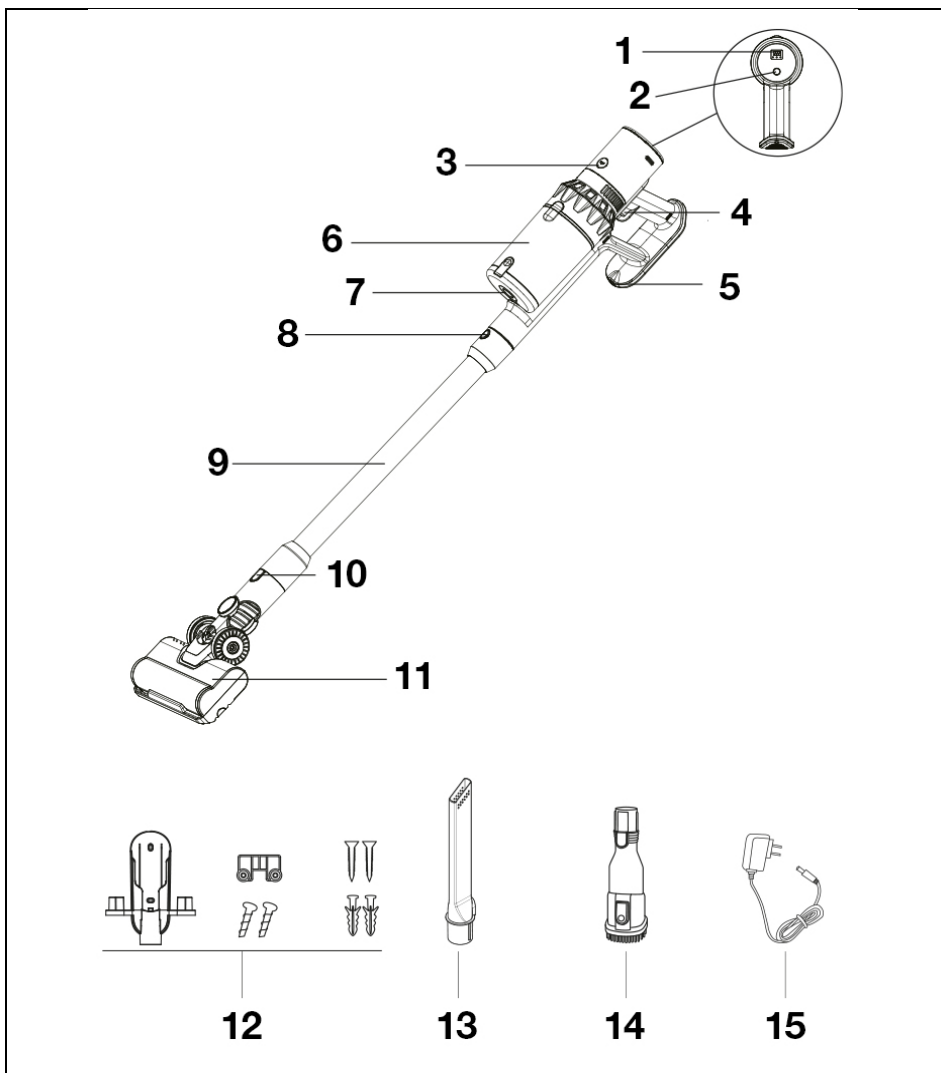

Figure 1
Press the main switch (4) - Fig. 1 to switch on the vacuum cleaner.
- a) Press the dust container lock (7) - Fig. 1